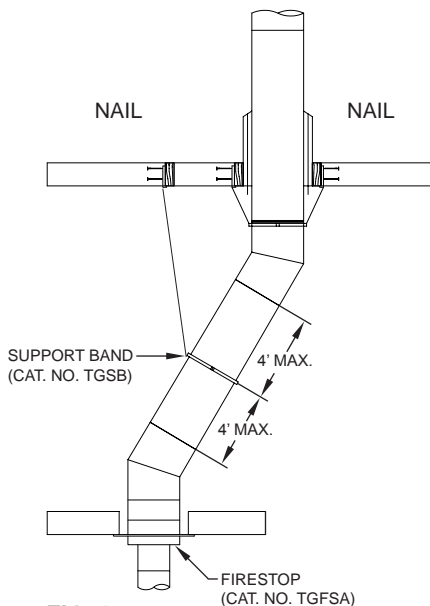

FIG. 16
2. Attach the elbow to the chimney pipe or other support part and twist to lock. Using the offset chart, add chimney sections between elbows. A support band (TGSB) is required at the upper elbow of the pair to support the load, as shown in **FIG. 16**. Attach the upper elbow to bring chimney back to vertical.